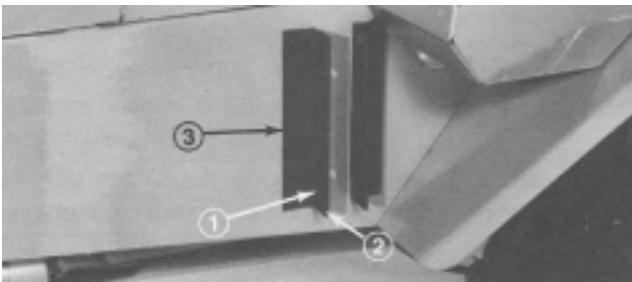

Figure 2
2. Mount and drill (8) 13/32" dia. holes at locations shown on template.
3. Using appropriate brackets and mounting holes, position brackets as shown in figure 2.
Note: Wide brackets are used for 62" decks and narrow brackets, shown in figure 2, are for 52" decks.